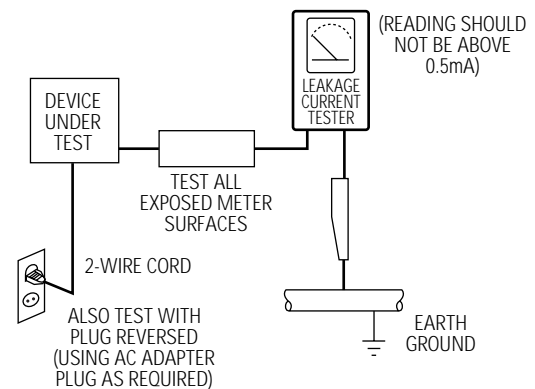

Fig. 1-1 AC Leakage Test
(2) Be sure that there are no cabinet openings through which adults or children might be able to insert their fingers and contact a hazardous voltage. Such openings include, but are not limited to, excessively wide cabinet ventilation slots, and an improperly fitted and/or incorrectly secured cabinet back cover.
(3) Leakage Current Hot Check-With the instrument completely reassembled, plug the AC line cord directly into a 120V AC outlet. (Do not use an isolation transformer during this test.) Use a leakage current tester or a metering system that complies with American National Standards institute (ANSI) C101.1 Leakage Current for Appliances and Underwriters Laboratories (UL) 1270 (40.7). With the instrument's AC switch first in the ON position and then in the OFF position, measure from a known earth ground (metal water pipe, conduit, etc.) to all exposed metal parts of the instrument (antennas, handle brackets, metal cabinets, screw-heads, metallic overlays, control shafts, etc.), especially any exposed metal parts that offer an electrical return path to the chassis. Any current measured must not exceed 0.5mA. Reverse the instrument power cord plug in the outlet and repeat the test. See Fig. 1-1.